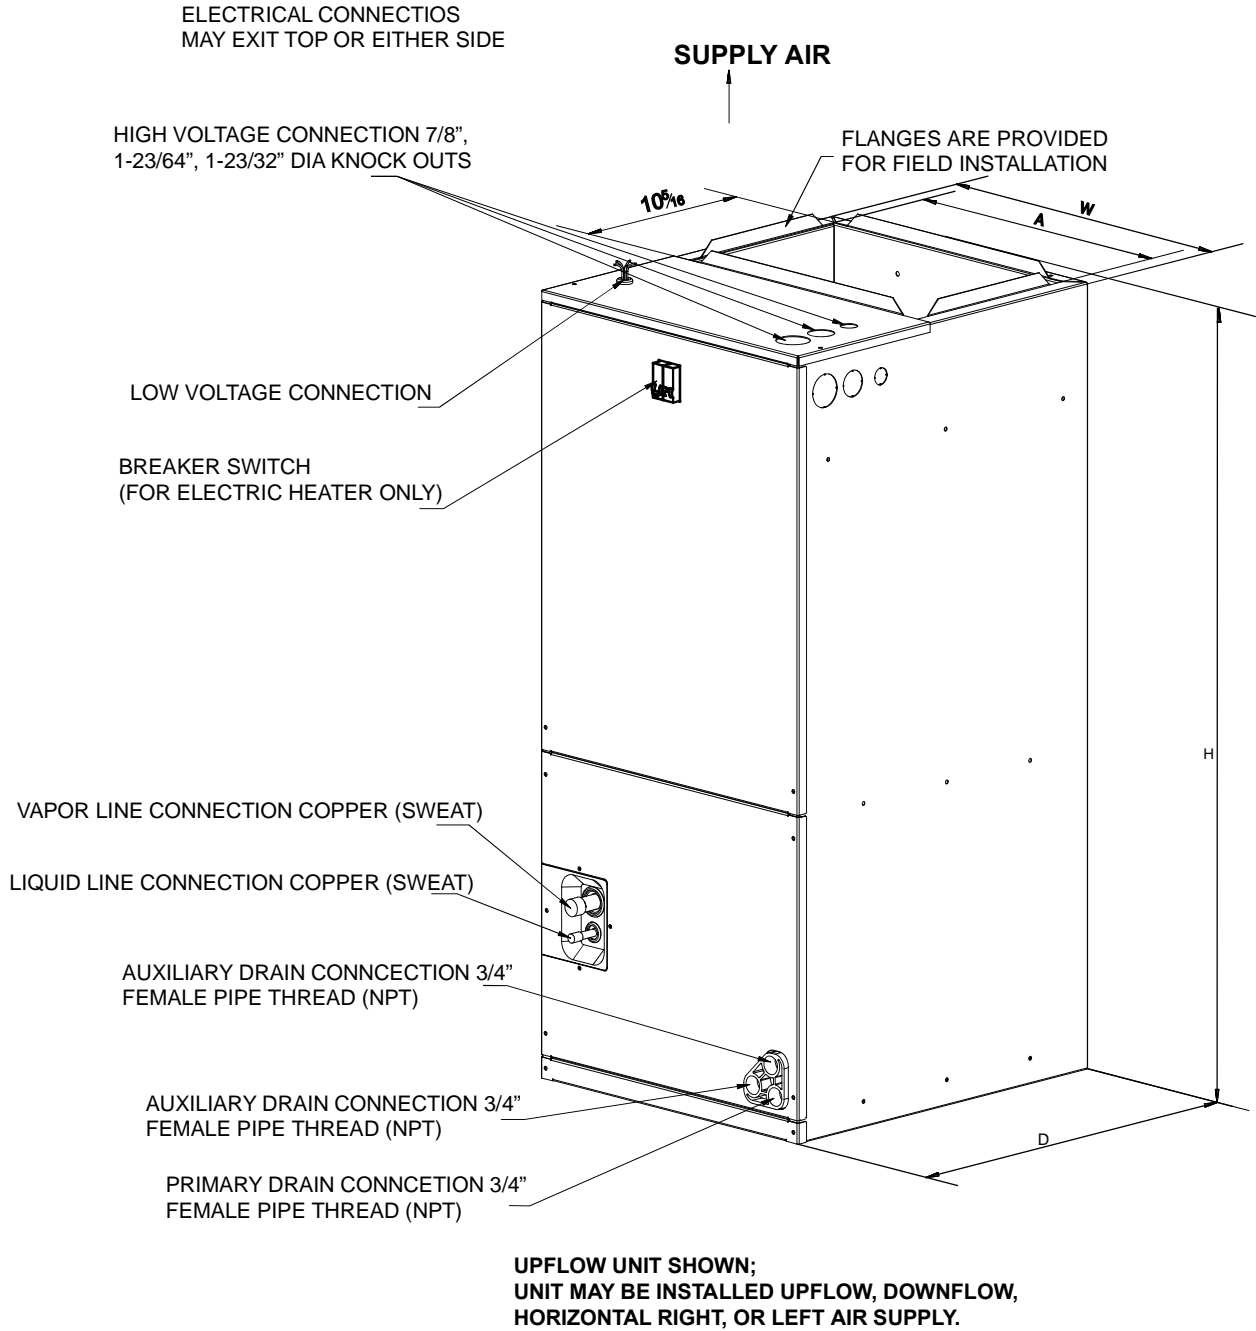

Fig.1 DIMENSIONS
Top and side power and control wiring, accessible screw terminals for control wiring all combine to make the installation easy, and minimize installation cost. See fig.1.
- Vertical Upflow configuration is the factory set on all models (see Fig 1).
Torque applied to drain connections should not exceed 15.ft.lbs.(see Fig.1&2)